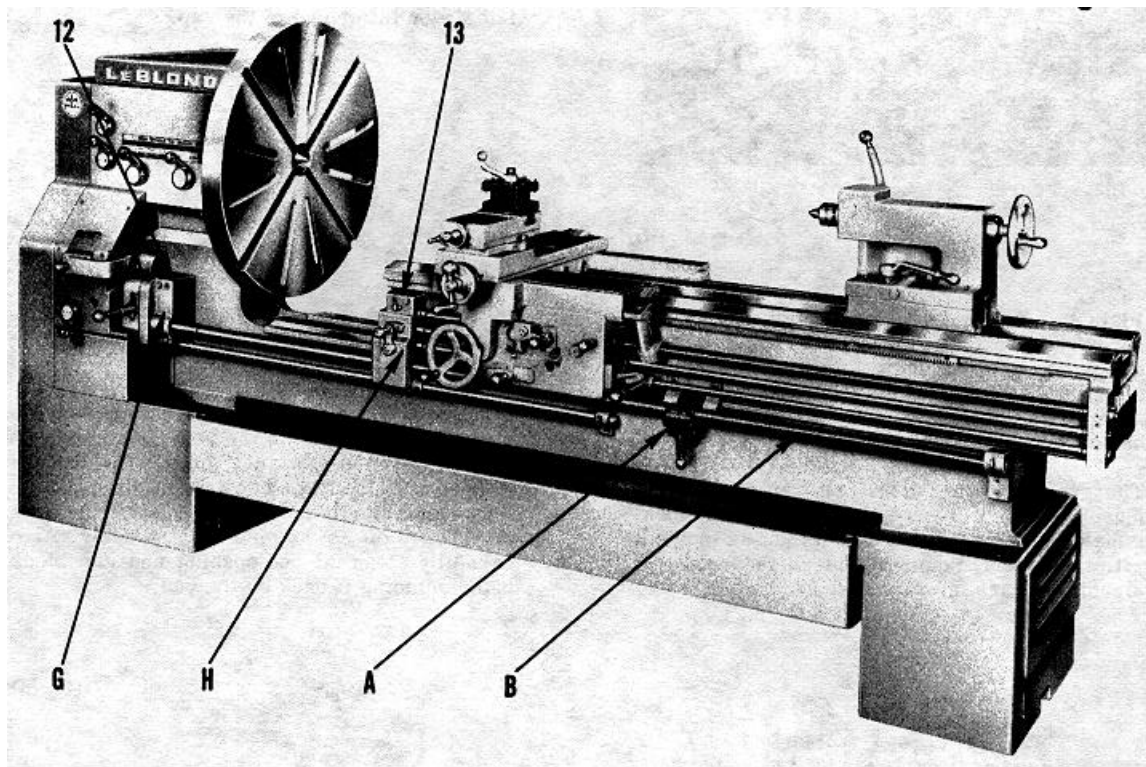

Fig. 14
(Fig. 14)
Lever (A), Fig. 14 engages the traverse nut to the drive shaft. The top bed slides along a vee-way on the bottom bed which keeps it in position.